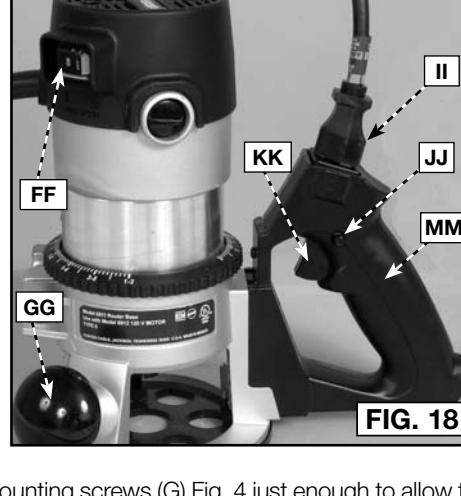

FIG. 18
To start the tool, move the rocker switch (FF) Fig. 18 to the "ON" or "I" position. To stop the tool, move the rocker switch to the "OFF" or "O" position.